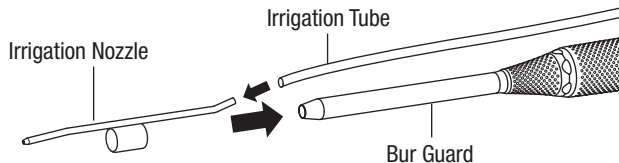

Fig.10
- 1 Insert the irrigation nozzle onto the bur guard of the attachment, making sure that the correct end of the irrigation nozzle goes in (Fig.10).
- 2 Insert the irrigation tube into the irrigation nozzle (Fig.10).